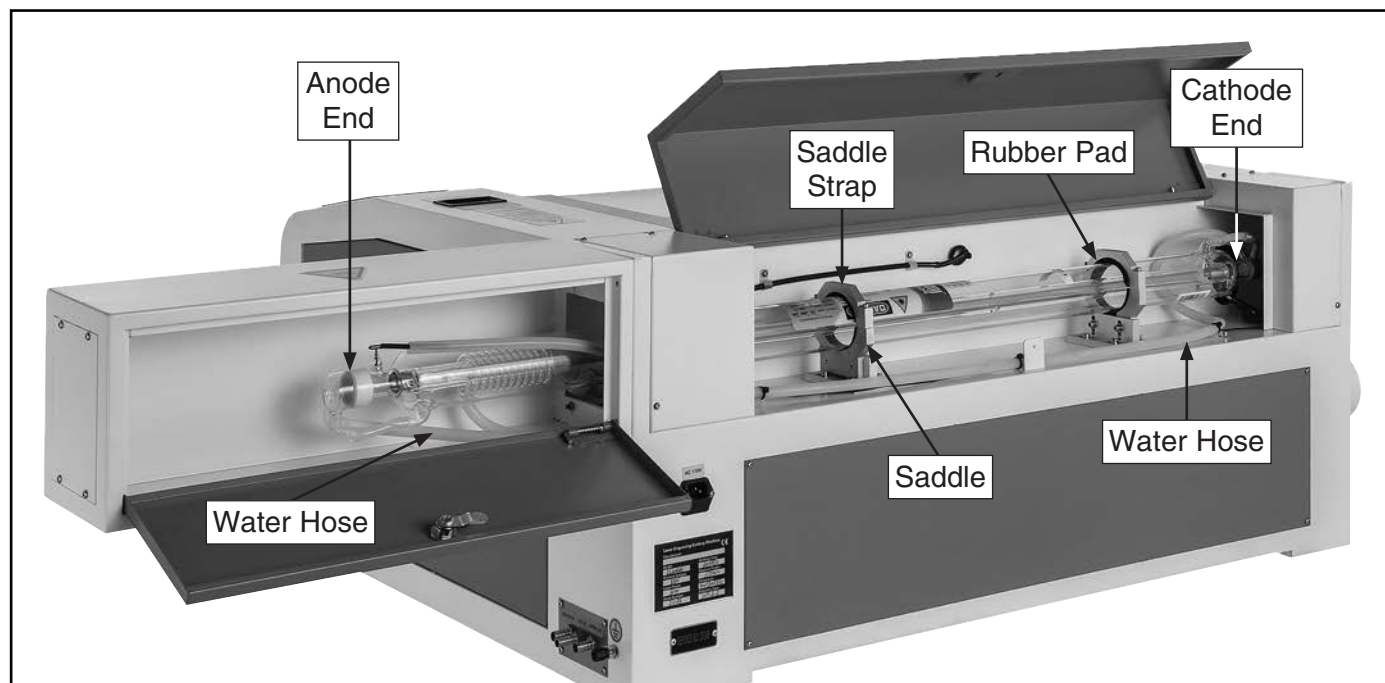

Figure 87. Laser tube compartment identification.
1. Inspect laser tube saddles (see **Figure 87**) and rubber pads for any debris or foreign material, and clean as required.
4. Carefully remove laser tube from shipping container, and orient anode-end on anode side of tube compartment (see **Figure 87**).
6. Position cathode-end (see **Figure 87**) of laser tube so there is a gap of 1–1½" between cathode-end and center of first mirror.